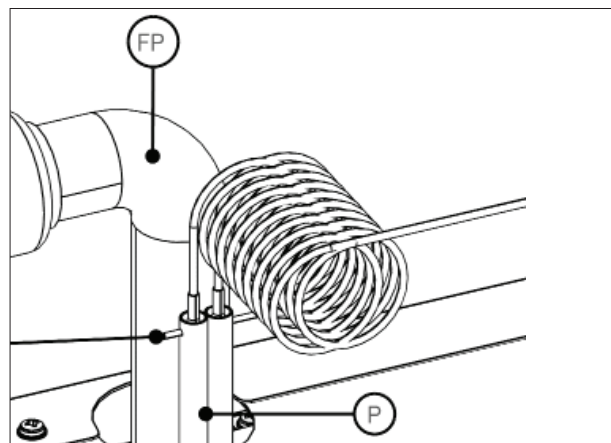

Figure 5-6: 26/36 & 36/46kW model - dual stat phials fitted in pockets
3. Secure both phials in place by fitting the split pin provided through the small holes at the top of the phial pockets. Refer to Figure 5-6.